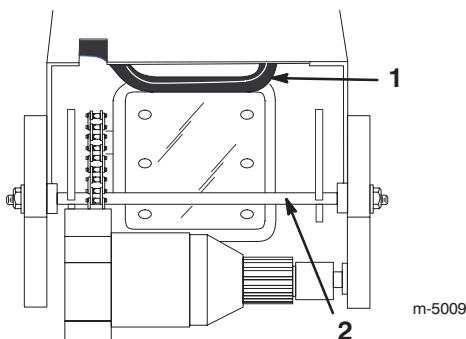

Figure 3
8. Push the latch arm to release the axle (Fig. 3).
9. Pull up on the axle while holding in the latch arm (Fig. 3).
10. Continue pulling the axle upward until the latch rod (Fig. 3) springs into the locked position.